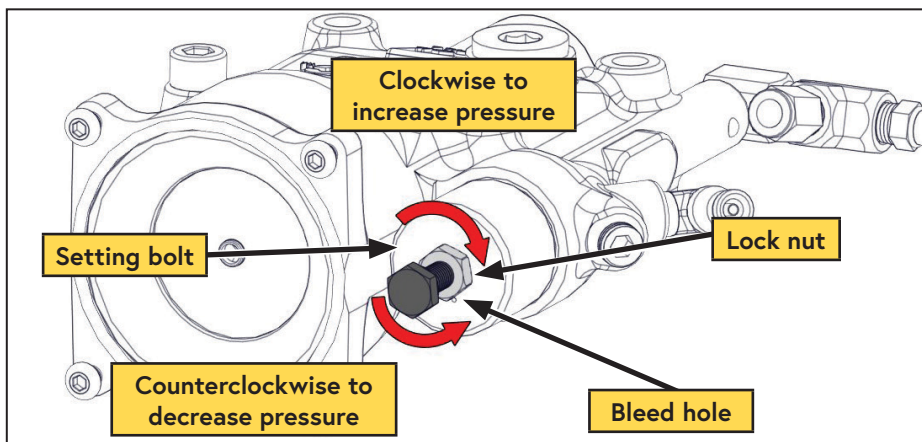

Figure 43 — Adjusting the inlet pressure regulator
- ☐ Loosen the locknut on the regulator (Figure 43).
- ☐ Rotate the pressure adjusting bolt as required to set the regulated pressure to 140 psi. (Figure 43).